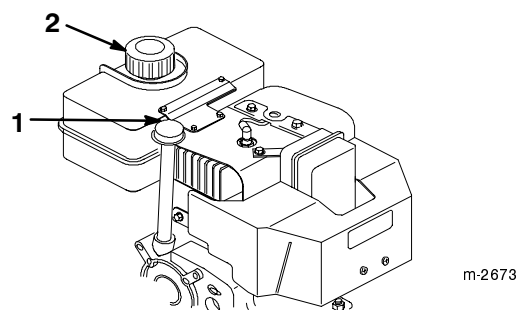

Figure 18
2. Clean the area around the dipstick (Fig. 18).
3. Remove the dipstick from the crankcase (Fig. 18).
1. Clean the area around the fuel tank cap (Fig. 18).